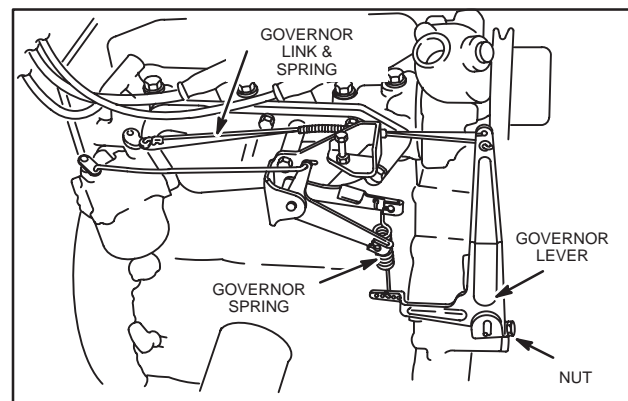

Fig. 6 – Remove Governor Lever
- c. Loosen nut and remove governor lever from governor shaft, Fig. 6.